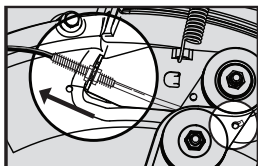

Fig. 5
4. Belt diameter adjustment: Loosen two Locknuts (fig. 5). Use M13 Spanner. – If size was too big, adjust Outer Cable in direction of arrow, until diameter is achieved or if size is too small, adjust Outer Cable opposite to arrow until diameter is achieved.
Note : Ensure cable engagement 'dog leg' is in the second mounting hole on the pulley assembly, as shown in fig 5.